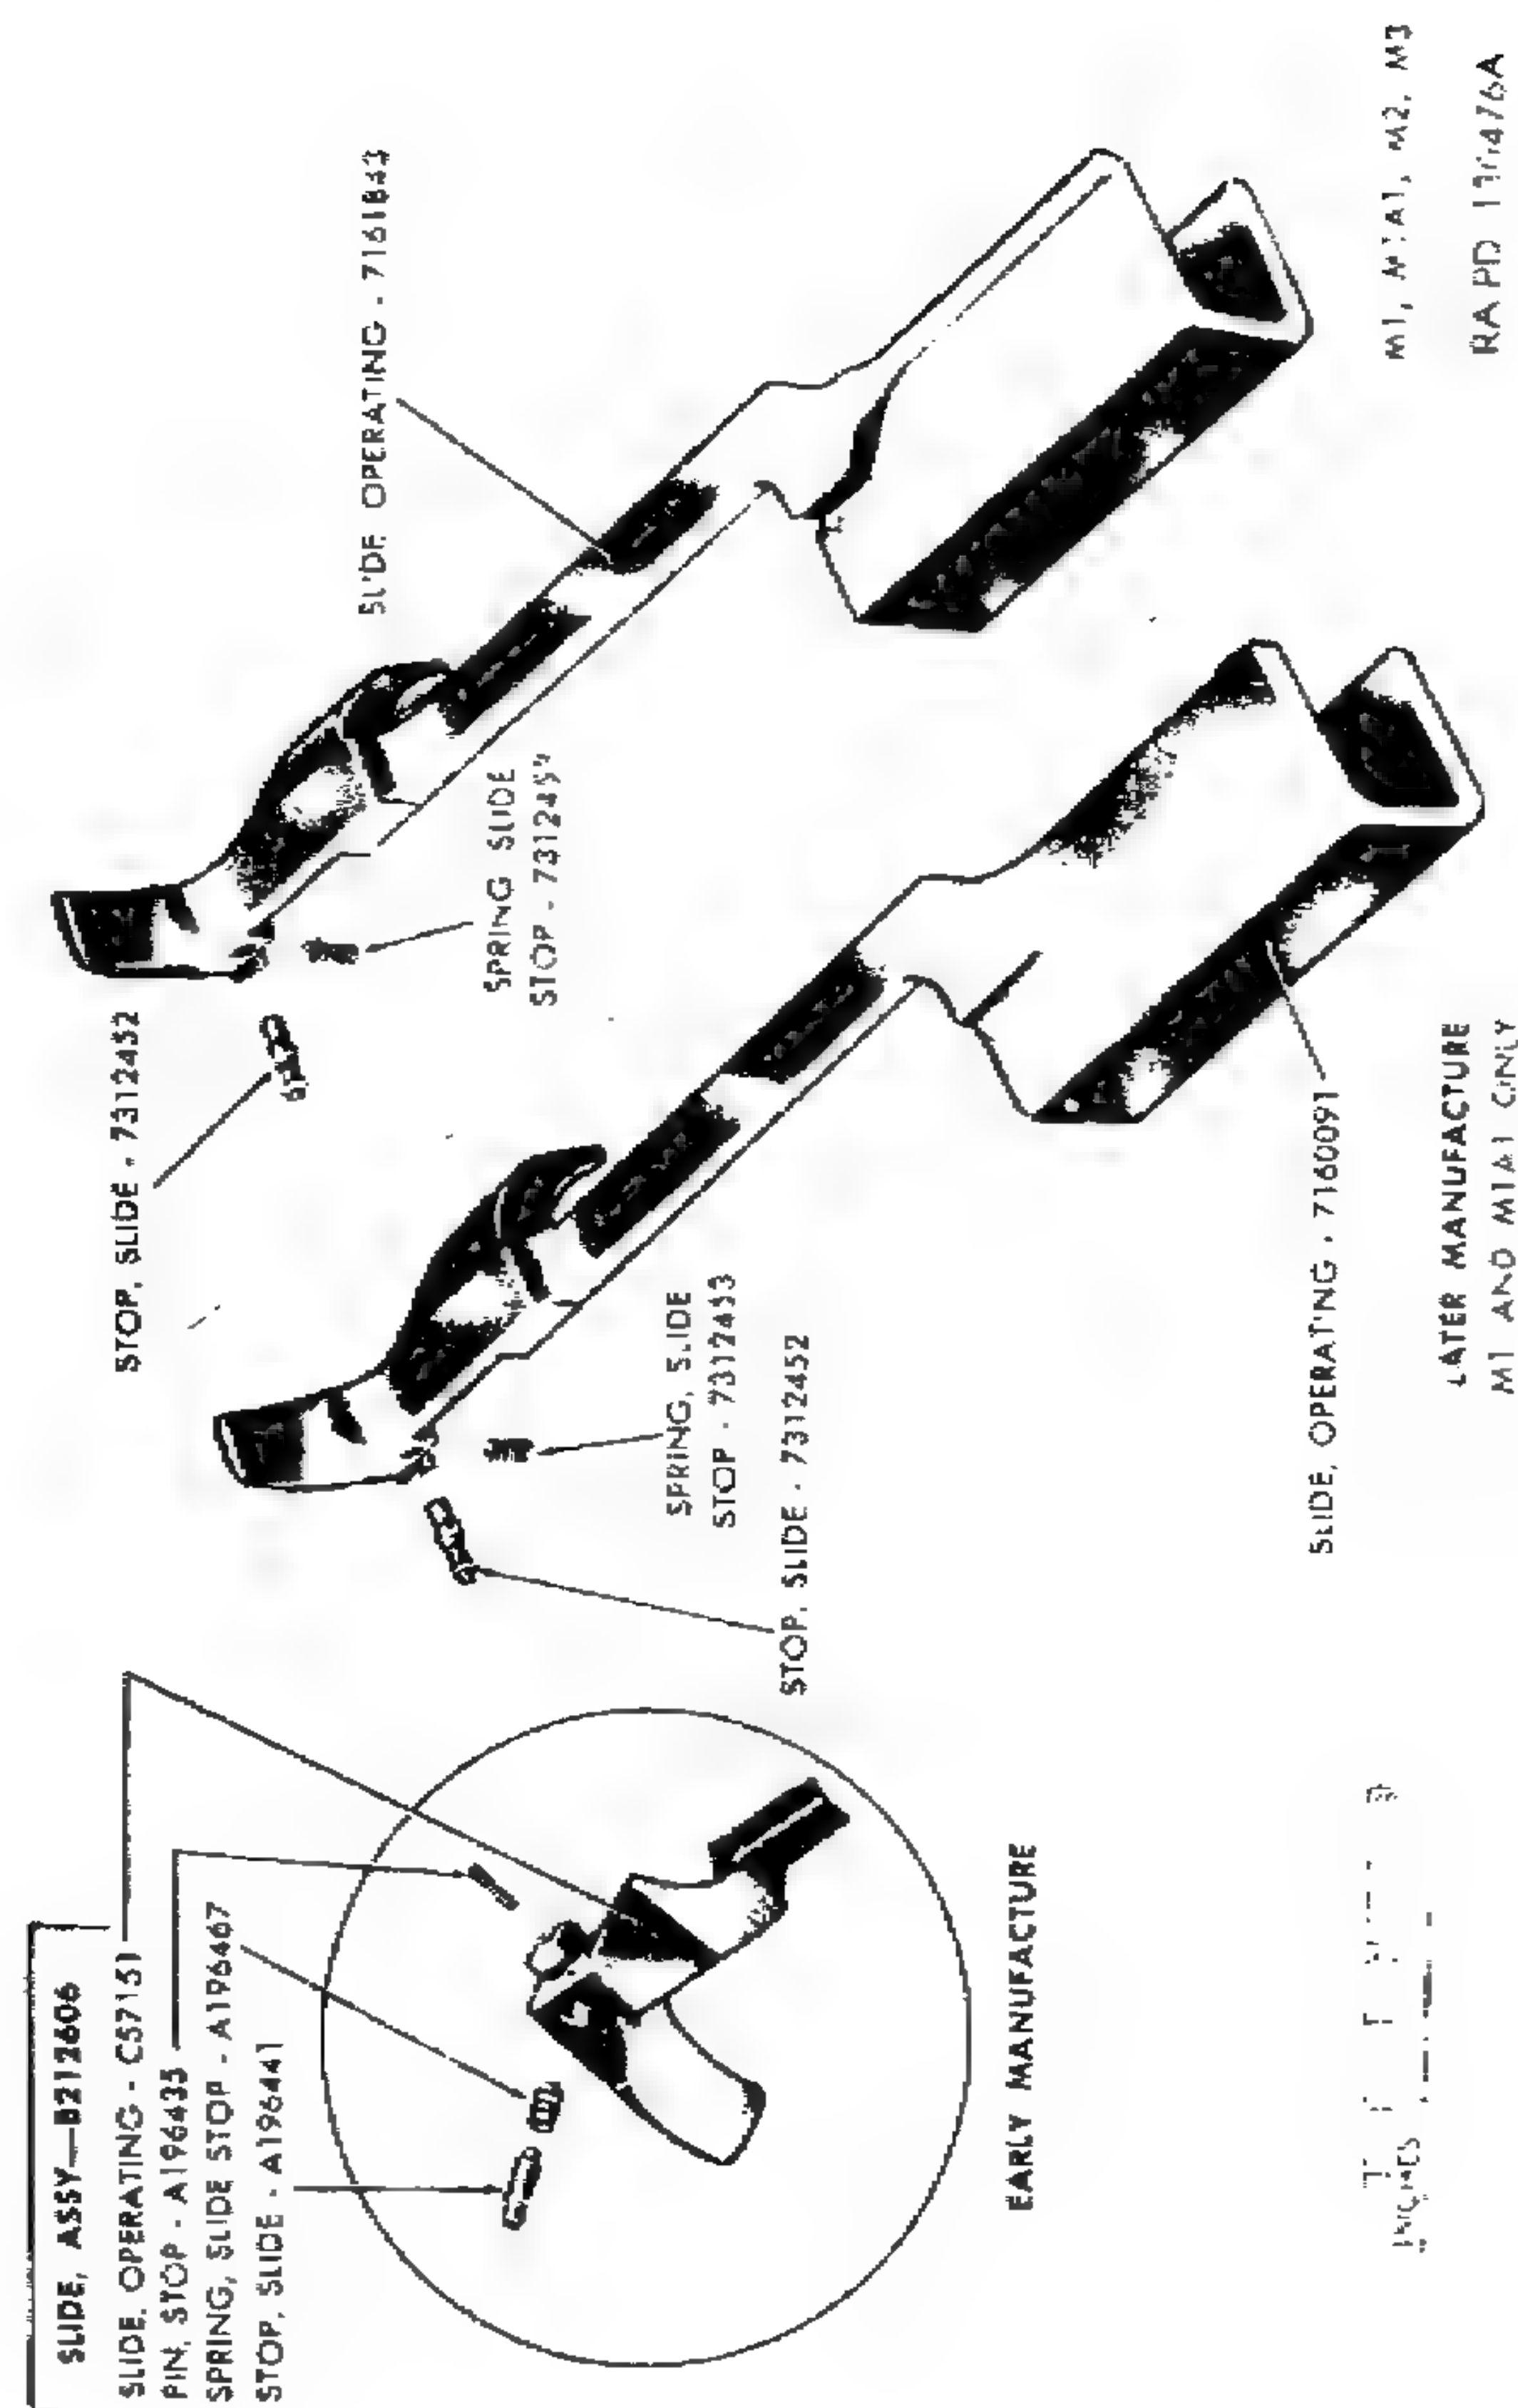

Figure 57. Operating slide assembly.
a. *Operating Slide* (fig. 57). Check slide for bent or cracked rear bar, deformation, excessively worn guide lugs, burrs, and corrosion. Inspect bolt camming lug recess for wear and burrs. Inspect spring guide seating recess in rear face for wear, burrs, and foreign matter. Inspect front face of slide where it contacts piston for levelness. Unevenness at this point may cause malfunction. Check camming surfaces for burrs and wear (fig. 58). Inspect the operating slide under "black light" for cracks in the areas specified below (DEPOT MAINTENANCE ONLY). Reject slides having cracks around the operating cam, at the junction of the inertia block and arm, and around the disconnect lever cam on M2 type slide 7161843. Check visually and reject operating slides showing breaks around the hole for the operating slide stop. Cracks at this point are acceptable. Use operating slide 5357151 (usable) or operating slide 7160091 (preferred) on carbines M1 and M1A1 until the supply is exhausted, then use 7161843 (fig. 58). Until the supply of the two former slides is exhausted, conserve operating slides 7161843 for use on carbines M2 and M3.
b. Operating Slide Stop and Stop Spring (fig. 57).
- (1) For depot maintenance, check to assure that stop 7312452 and spring 7312453 are used. For field maintenance, old type is satisfactory if it functions properly.
- (2) Inspect stop for wear and burrs, looseness in operating slide, and rust. Inspect stop spring for functioning, lack of friction with stop, and for set. Inspect spring for foreign matter.